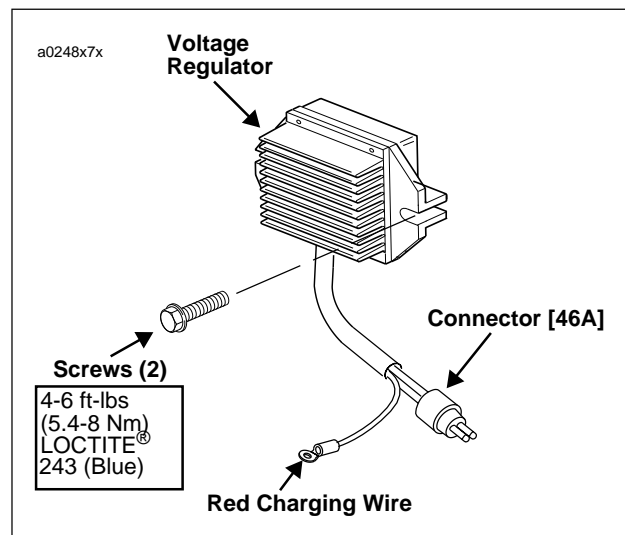

Figure 7-57. Voltage Regulator
- b. See Figure 7-57. Disconnect Red charging wire from gold post of main circuit breaker.
2. See Figure 7-57. Attach **new** voltage regulator using two screws. Tighten screws to 4-6 ft-lbs (5.4-8 Nm).